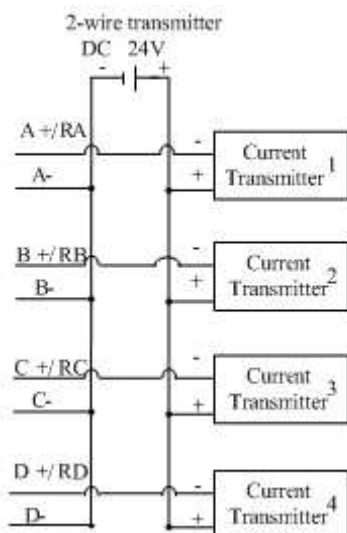
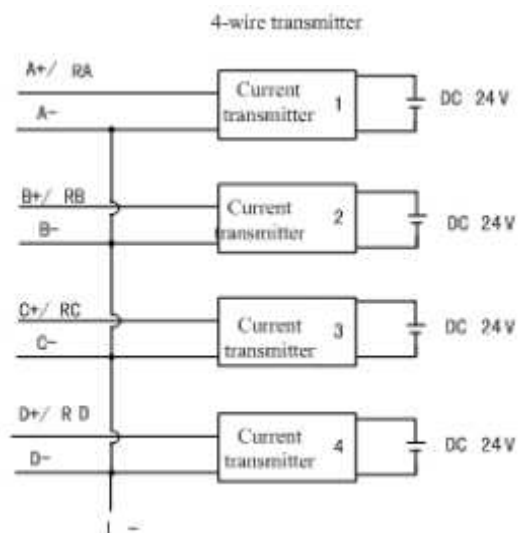

Figure3-2-8 2-wire current transmitter wiring
Figure3-2-9 4-wire current transmitter wiring
- Figure3-2-8 and Figure 3-2-9 are wiring with 2-wire and 4-wire current transmitter. 2-wire current transmitter adopts external power supply, user can choose to use 24VDC output power of CPU module according to power capacity demand, or connect other external power.